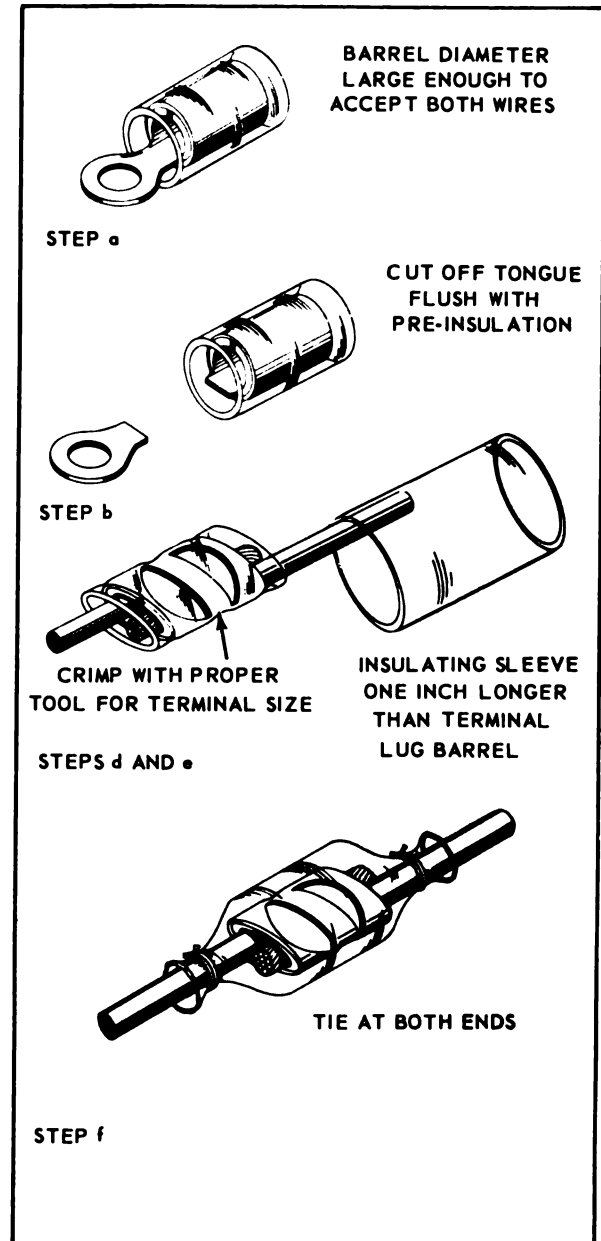

Figure 19-2. Terminal Lug Barrel Repair of Wire
e. Crimp the barrel in the center following the procedures of section V. (See figure 19-2.)